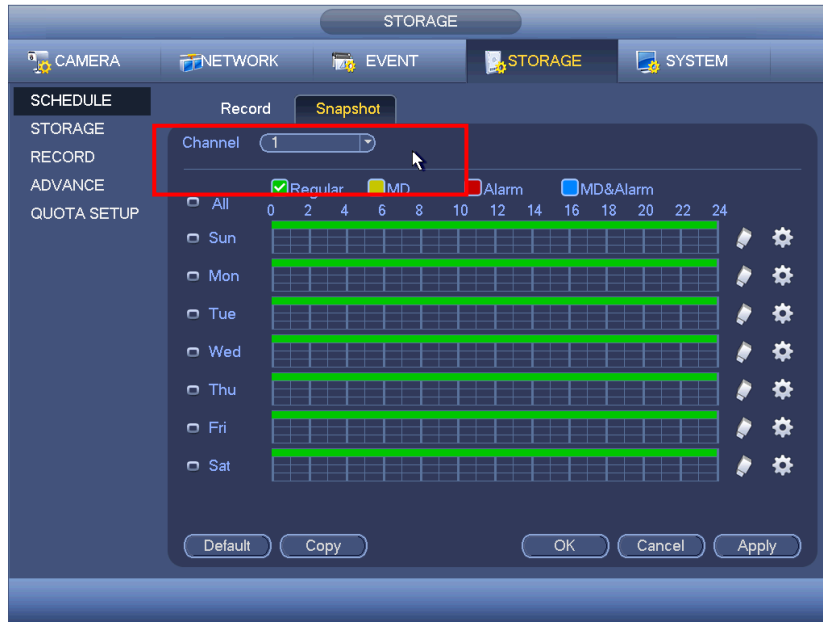

Figure 4-115
- In main menu, from Setting->Camera->Encode->Schedule interface, please enable snapshot function. See interface on the right of Figure 4-115.